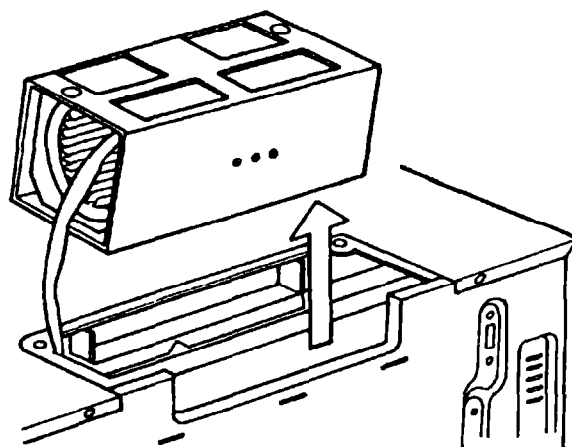

Figure 4
2. Withdraw hood fan unit upward carefully (Fig.4).
2. Withdraw hood fan unit (Figure 4, page 8)